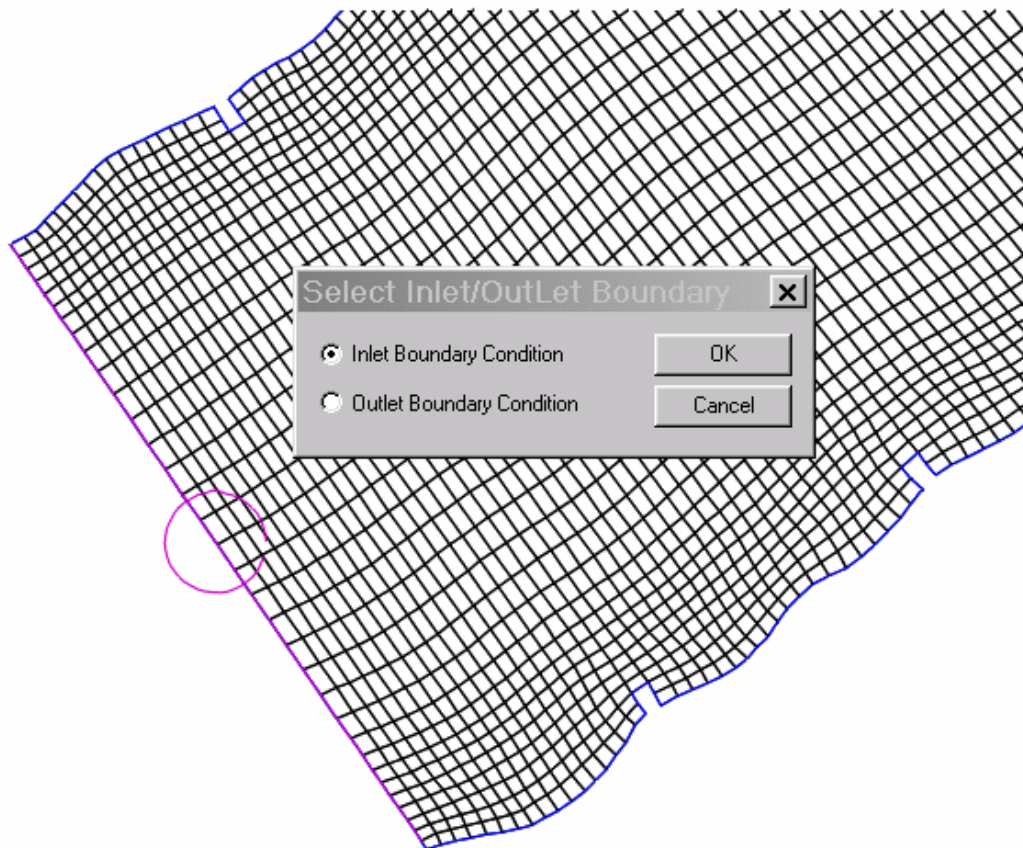

Figure 2-12
- Then define the following 7 size classes as shown in Figure 2-12. Each size class is defined using the same procedure: first enter the **Diameter** and then click **Add Size Class**.